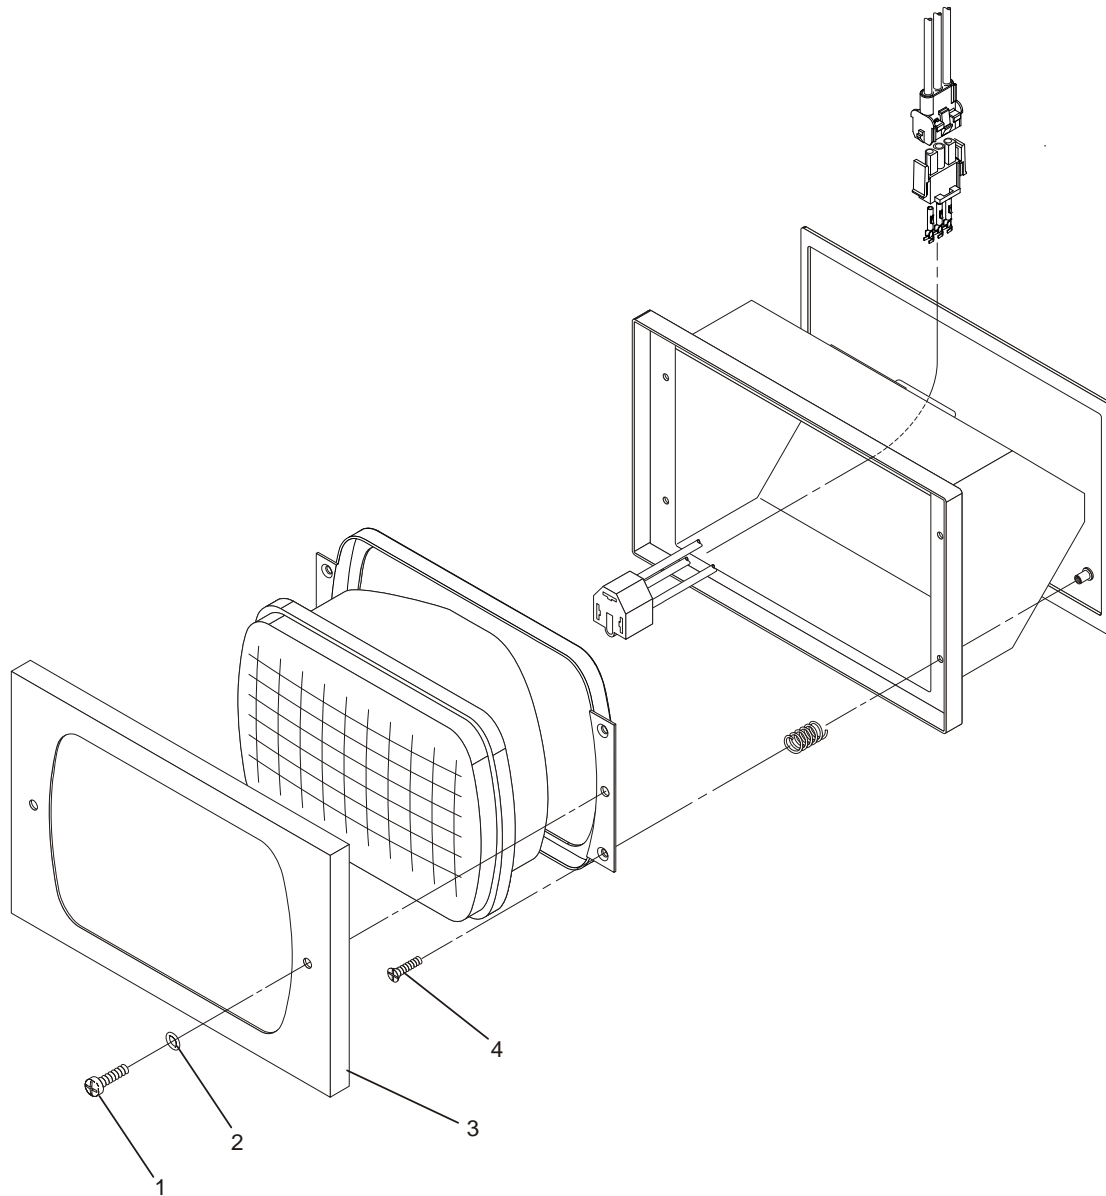

Figure 5-5: Adjustment Of Headlight
- a. Remove two catch screws (1, Figure 5-5) and two round washers (2) from the headlight bezel (3).
- c. Use a screwdriver to adjust the appropriate 10-32 x 3/4 flat head Phillips screw (4) to adjust as appropriate.